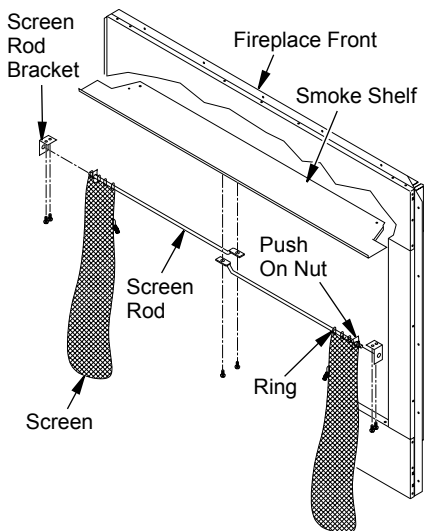

Figure 21 - Installing Fireplace Screen
4. Mount flat end of screen rod with #10 x 5/8" to center of smoke shelf (see Figure 21, page 15).